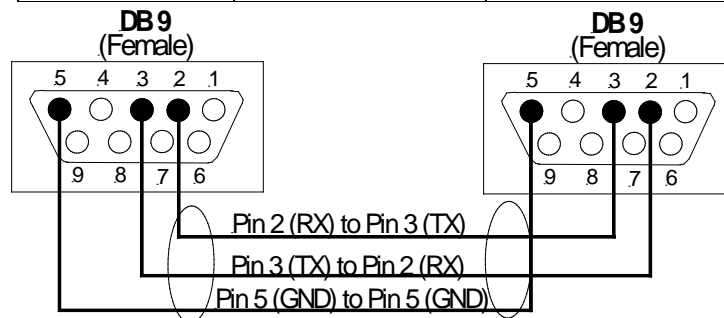

Figure 4-4. DB9F to DB9F Cable Wiring
1. Get a DB9F-to-DB9F RS232 Data Transfer (Null Modem) cable. Use a standard cable or create a cable using the connection requirements in Table 4-2 and Figure 4-4.